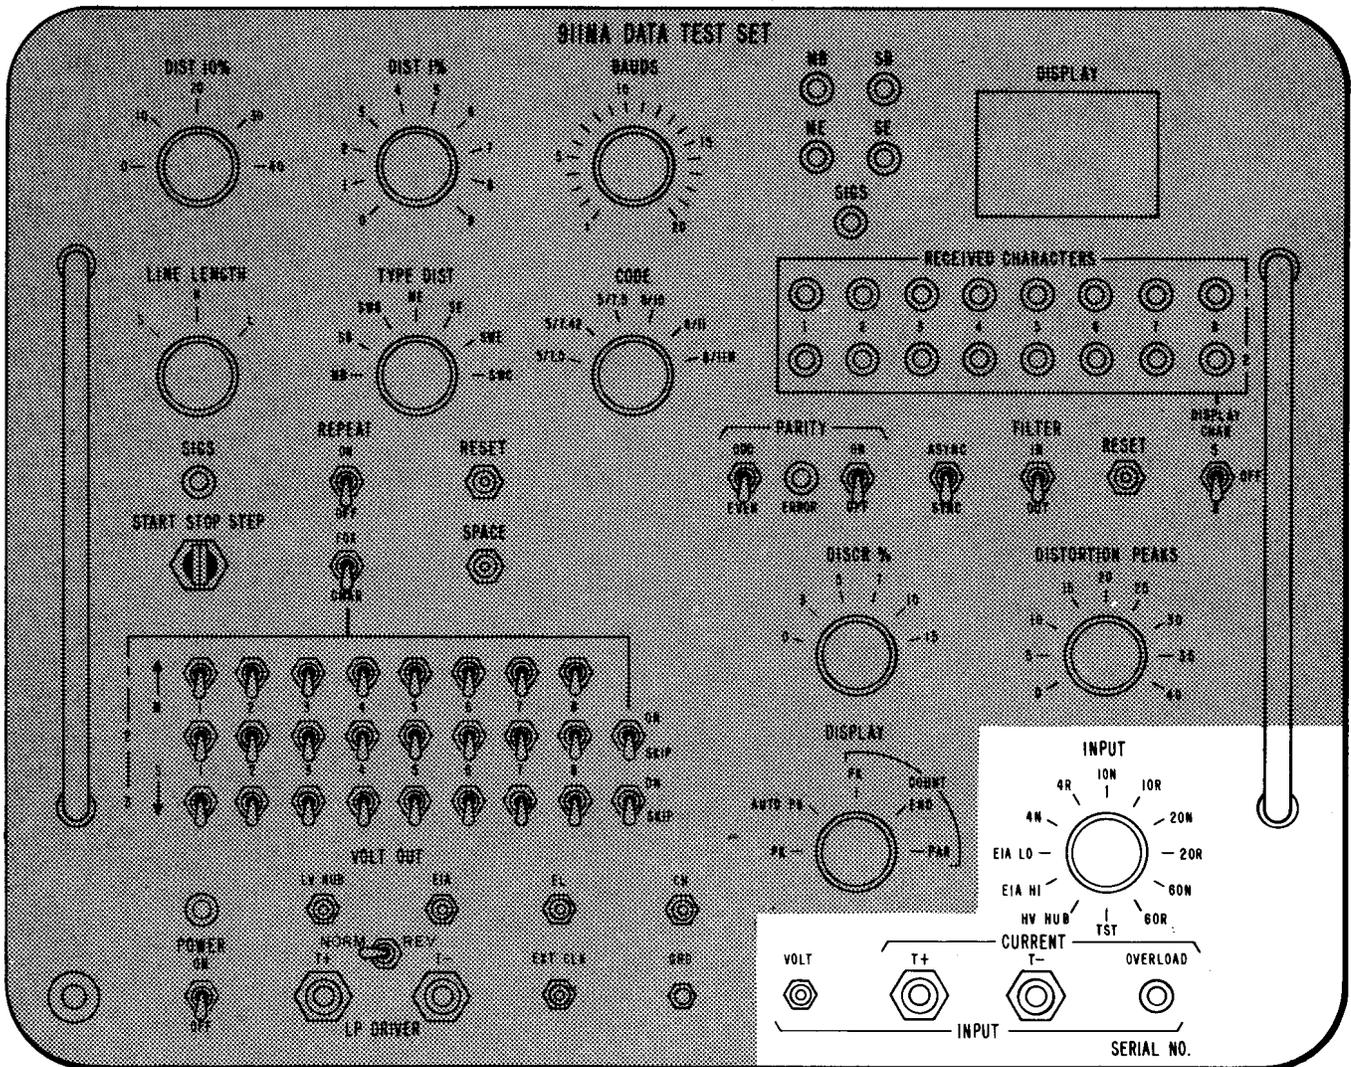

Fig. 15—Location of DMS Inputs
**3.30** The input area of the DMS is shown in Fig. 15. All voltage inputs are connected to the VOLT jack with the INPUT switch set to the proper position [EIA LO (normal EIA signals), EIA HI (provides a high impedance input for bridging on circuits without signal interference), HV HUB (No. 2 hub)] as required. Neutral current signals of 4, 10, 20, or 60 milliamperes, either normal or reversed, are connected via the T+ (positive on tip) or T- (negative on tip) input jacks. The INPUT switch must be set to the proper position as required. Input protection for the current inputs provides a short circuit and lights